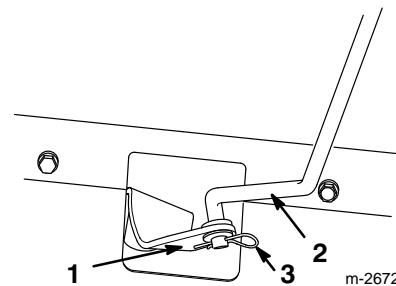
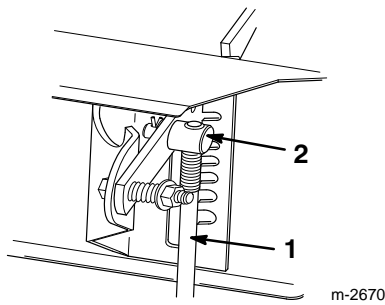

Figure 6
Figure 7
- Pull the speed selector arm (Fig. 6) to the most outward position.
- Rotate the speed selector rod in the trunnion (Fig. 7) until the bottom end of the rod can slip into the hole in the speed selector arm (Fig. 6).
4. Install the speed selector rod into the selector arm, add one flat washer on the rod and secure it with a cotter pin (Fig. 6).